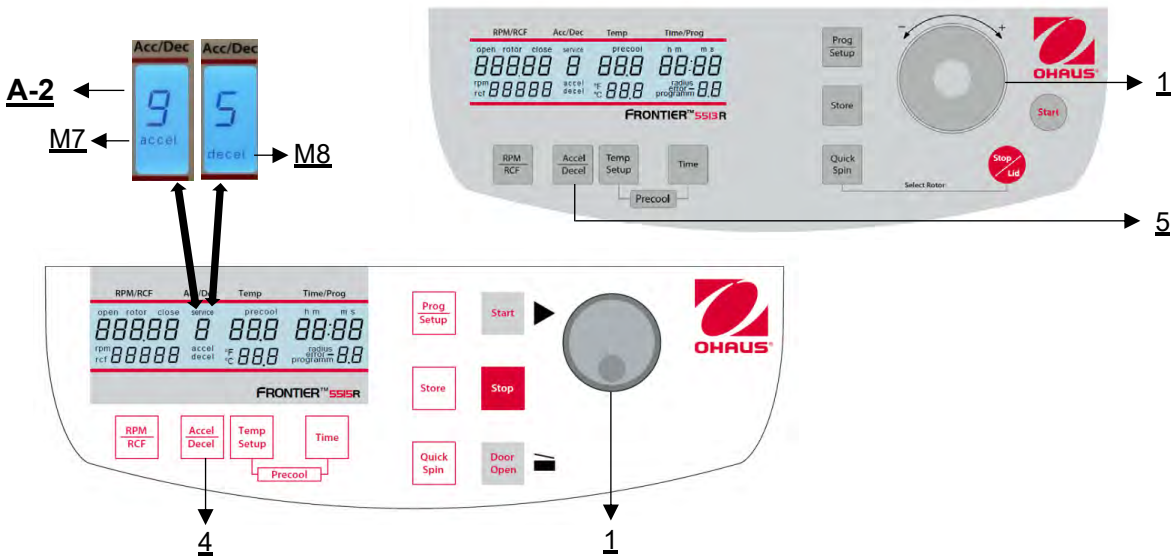

Figure 14
This function is activated through the key "**Accel/Decel**" (4) (refer to Figure 14).